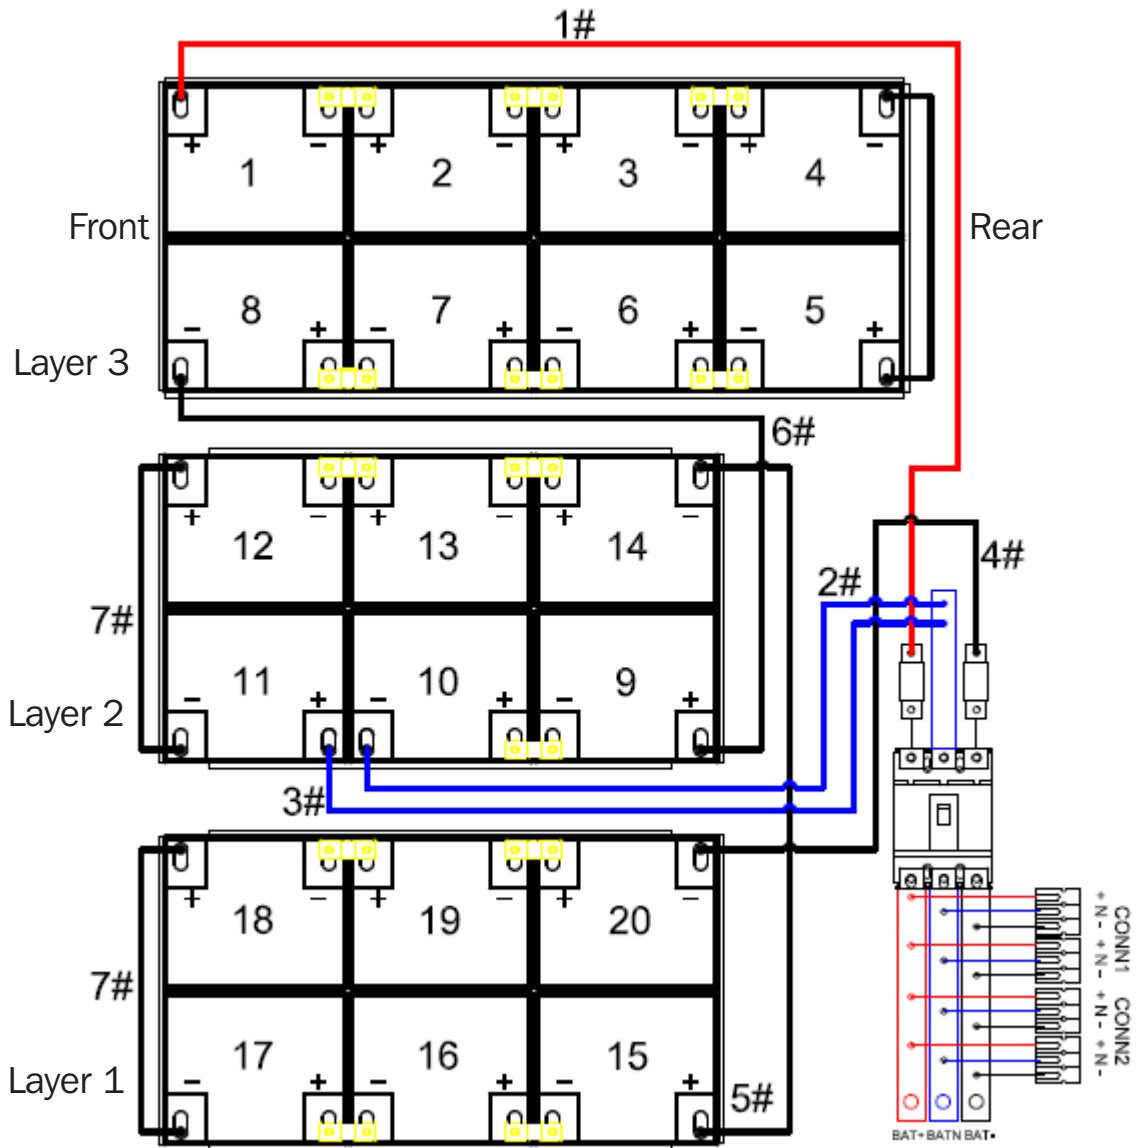

Figure 5-41C
- For these connections, refer to the wiring diagram in Figure 5-41C.